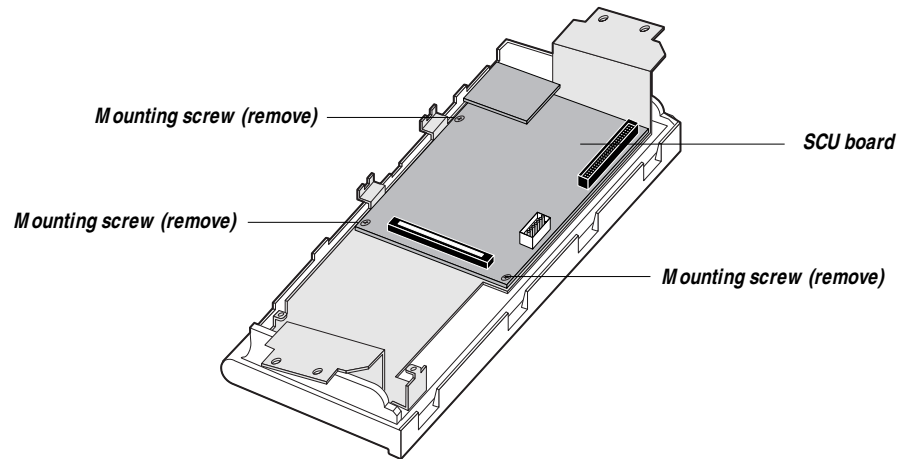

Figure 2-10 Removing SCU board mounting screws
2. ***Remove three of the mounting screws that secure the SCU board to the Operation Panel (see Figure 2-10 on page 2-12).***